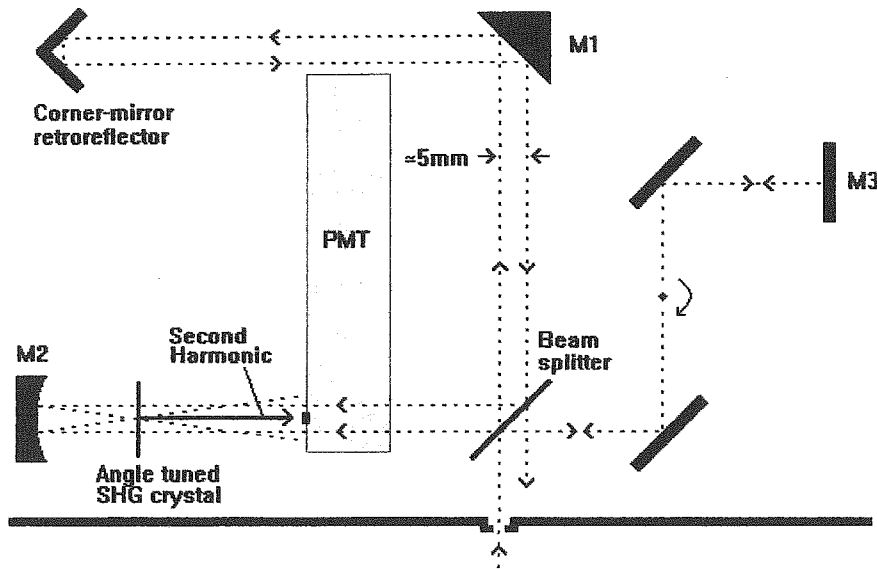

Figure 2 FR-103MN Top View Schematic
The standard optical schematic of the FR-103MN is sketched in Figures 2 and 3. [When /FA(CC) Option is included, the alternate beam configuration described in section 4.a is applied. In this case, the delayed and fixed beams described below are reversed. See Sect.4a] The beams lie mainly in the horizontal plane through the centers of M1 and the input aperture. Most of the optical components are factory aligned and need not be reset. Described below, the adjustment of the FR-103MN for proper operation is straightforward.